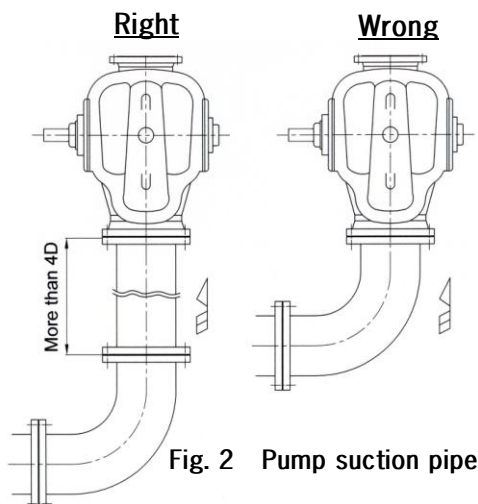
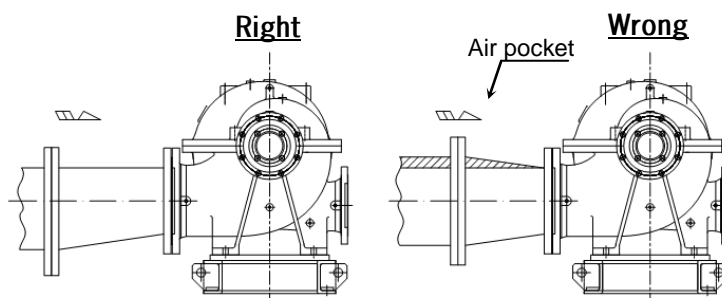

Fig. 2 Pump suction pipe
Fig. 3 Pump suction pipe
- (1) As suction discharge pipe load applied to the pump causes eccentricity, both pipes should be provided with adequate support.
- (2) Minimum number of suction elbows with bend radius as large as possible may be installed at some distance from pump inlet (Fig. 2)
- (3) Install a check valve for reverse flow prevention when the discharge pipe is too long, actual head is high, water is fed pressure tank, or when two or more pumps are operated in parallel. Install the check valve between the pump and the sluice valve.
- (4) If there is danger of water hammer, a quick closing check valve should be installed on the discharge side.
- (5) If a pipe of different diameter than pump flange is used, an eccentric type reducer should be installed so as not produce any air pocket. (Fig. 3)